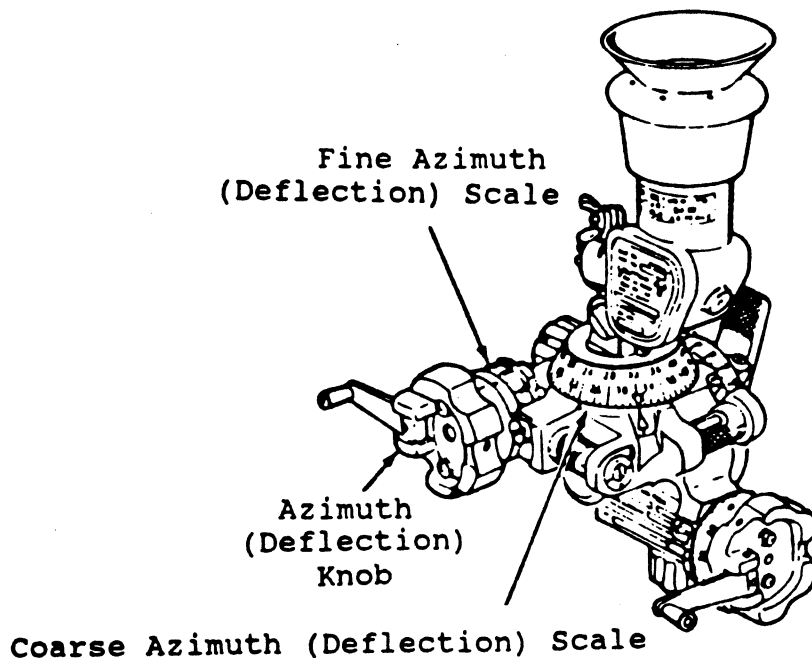

Fig 2-6. Placing deflection settings on the sight.
- (a) The first two digits of the deflection are placed on the coarse deflection scale (fig 2-6). After unlocking the deflection locking knob, the first two digits are placed on the coarse deflection scale by rotating the deflection knob (fig 2-6) either clockwise or counter-clockwise and aligning the desired number with the white index arrow.
- (b) The last two digits of the deflection are placed on the fine deflection scale (fig 2-6). To do this, you rotate the deflection knob clockwise until the desired number aligns with the fine deflection scale index arrow. Once you have accomplished this, lock the deflection in place with the deflection locking knob.